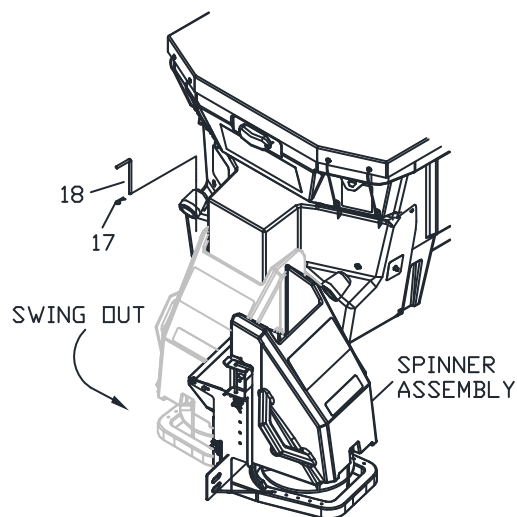

Figure 16. Spinner Assembly Attach G10783
7. Unplug Spinner Harness, remove Driver Side Cotter Pin (17) and Attachment Pin (18).
8. Swing out Spinner Assembly toward Passenger Side of vehicle. See Figure 16.